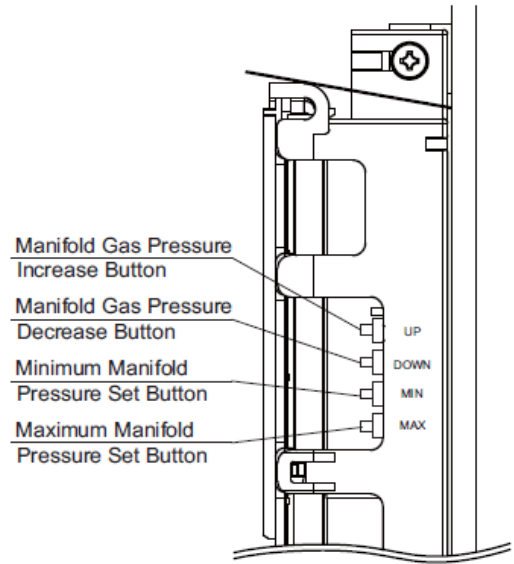

FIGURE 8
- 9) Once the heater has ignited and has begun to run continuously, locate the manifold adjustment buttons on the right side of the circuit board (Figure 8).